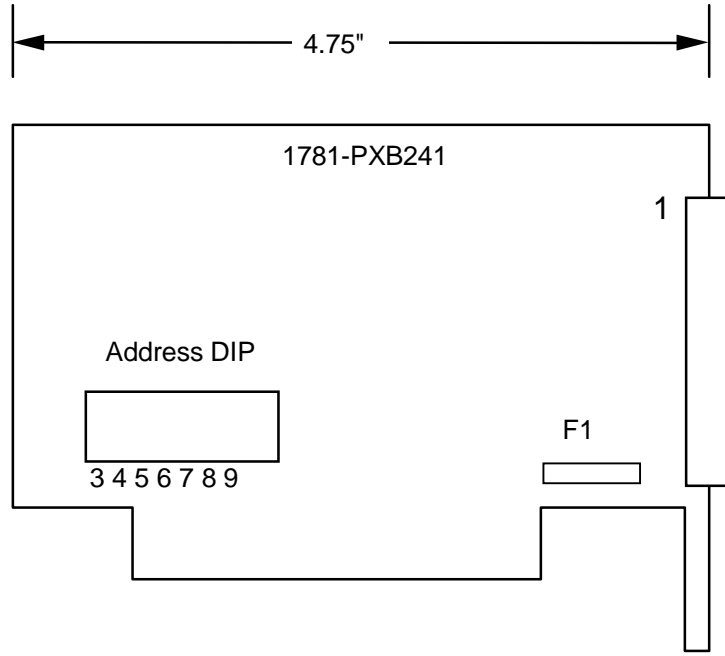

Figure 1
1. Set the address DIP switch to a desired address. The address DIP switch is shown in Figure 1. Select a base address for the 1781-PXB241 and set the individual DIP switches to ON or OFF corresponding to the selected base address. The base address and switch settings are shown above.